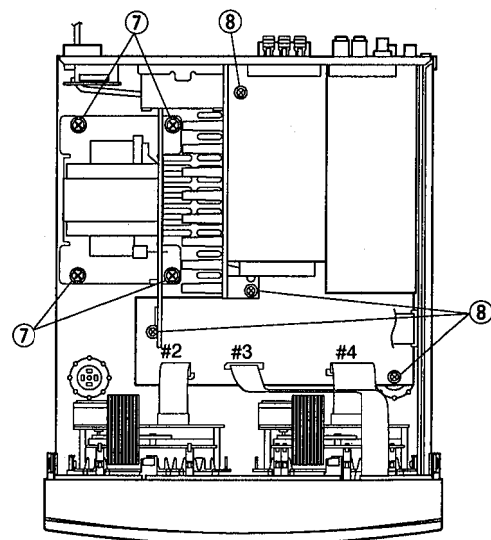

Fig. 7
- Remove 4 screws (⑦) and then remove the Power Transformer in Fig. 7.
- Remove 4 screws (⑧) in Fig. 7.
- a. Disconnect the flat connecting cables #2, #3 and #4 in Fig. 7.